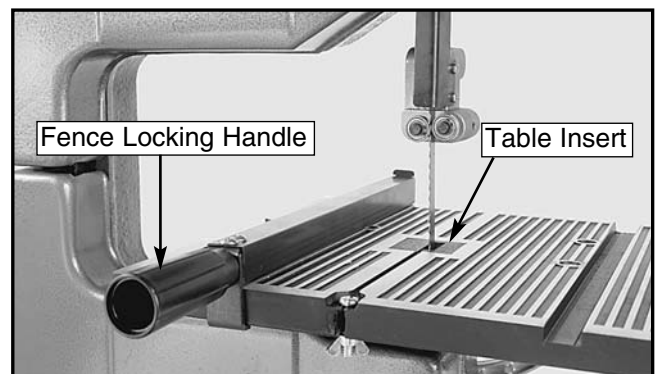

Figure 3. Fence installed on the table.
1. Loosen the fence locking handle (#60). See **Figure 3.**